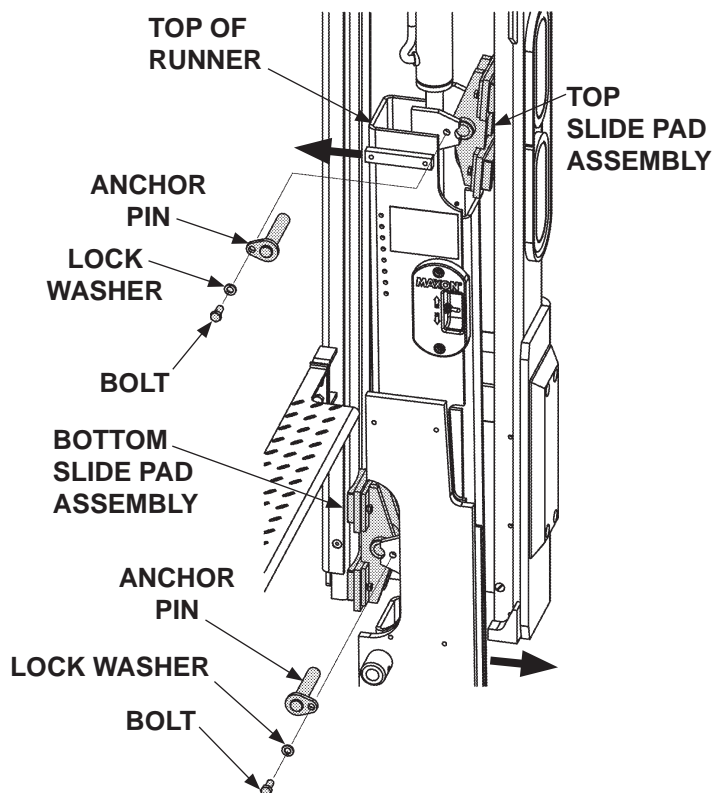

FIG. 30-2
14. If Liftgate is equipped with tandem assembly with slide pads, unbolt the anchor pin from the slide pad assembly at the top of runner (**FIG. 30-2**). Next, move top of runner toward vehicle body for enough clearance to remove slide pad assembly. Remove the slide pad assembly (**FIG. 30-2**).
15. For the slide pad assembly at the bottom of runner, unbolt the anchor pin (**FIG. 30-2**). Next, move bottom of runner away from vehicle body for enough clearance to remove slide pad assembly. Remove the slide pad assembly (**FIG. 30-2**).